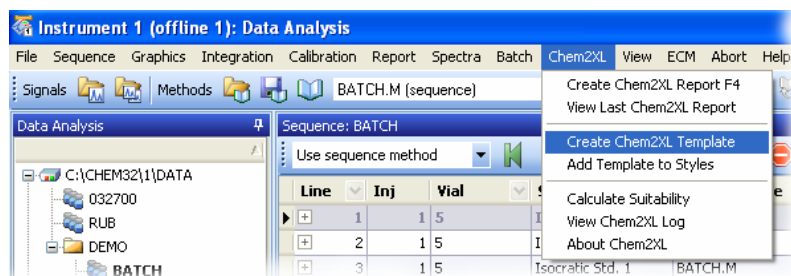

Figure 1: Create Chem2XL template menu
3. Select the Chem2XL menu “Create Chem2XL Template” (see Figure 1)